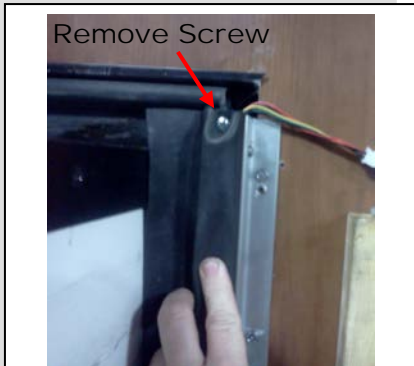

Figure 15 Removing the bulb seal screw
2. If applicable, remove the top screw from the bulb seal at the top of the **VERTICAL CHANNEL (FIGURE 15)**.